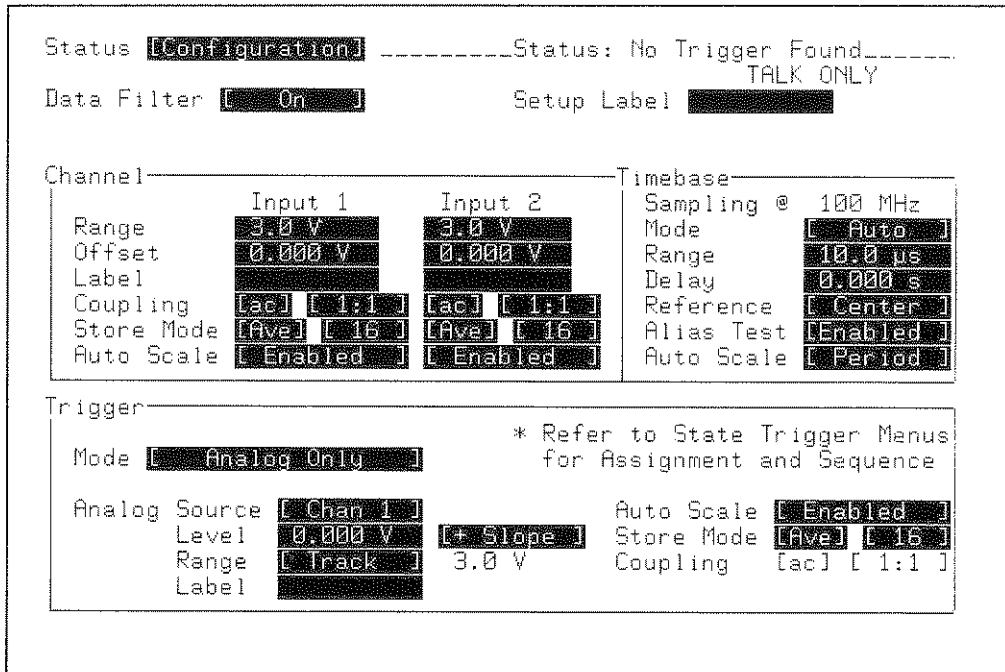

Figure 9-5. STATUS Configuration Menu
1. Configure STATUS Configuration menu as shown in figure 9-5.